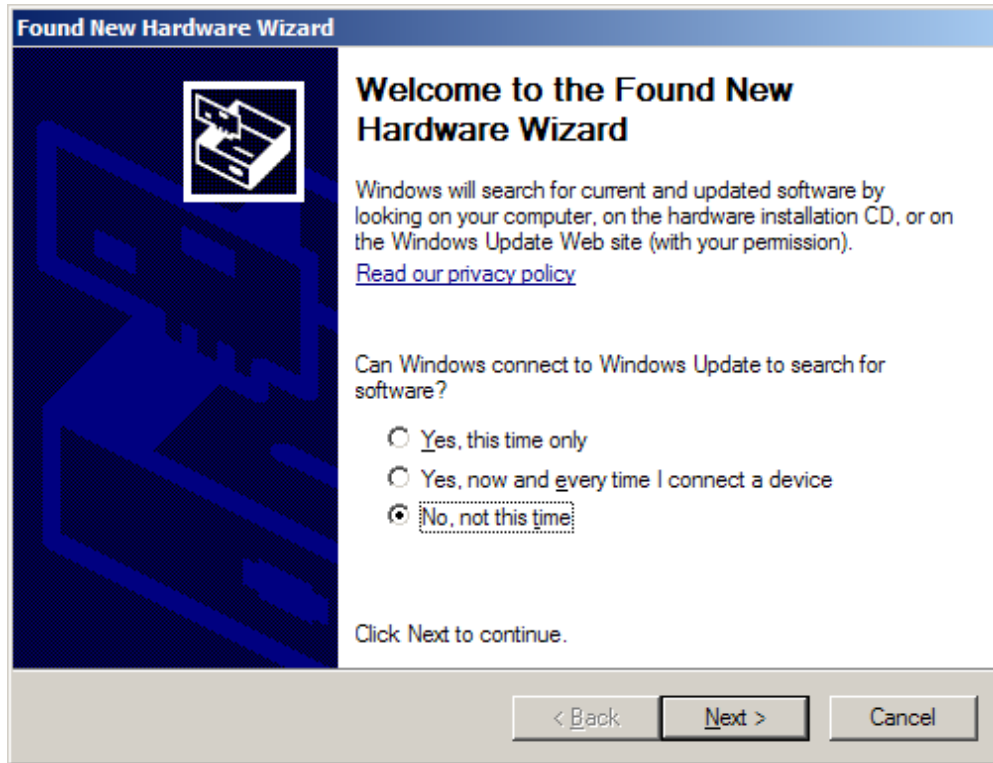

Figure 20. Install New Driver Wizard Screen 1
- Step 4. If you have not yet loaded the operating system drivers, Windows will display the Windows Install New Driver Wizard sequence (illustrated in Figure 20 through Figure 24). Accept the default settings.